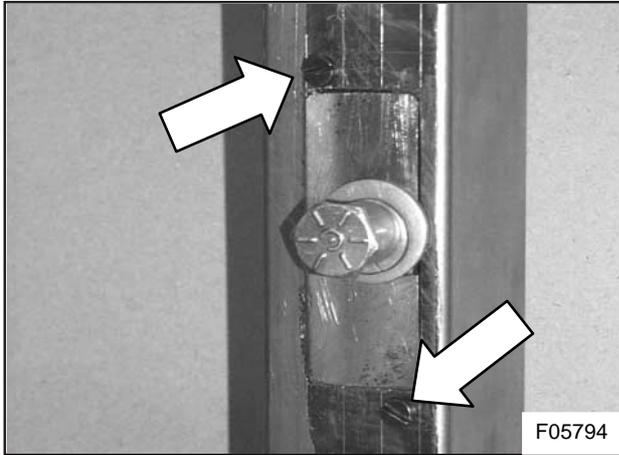

Figure 8: Location of base plate assembly installation screws
- 7) Below the cut-out opening, drill two holes large enough to insert two small screwdrivers in order to prevent the new striker bolt base plate assembly from falling down the B post, when fitting it in place. Drill two more holes diagonally to accept the base plate installation screws (see Figure 8).